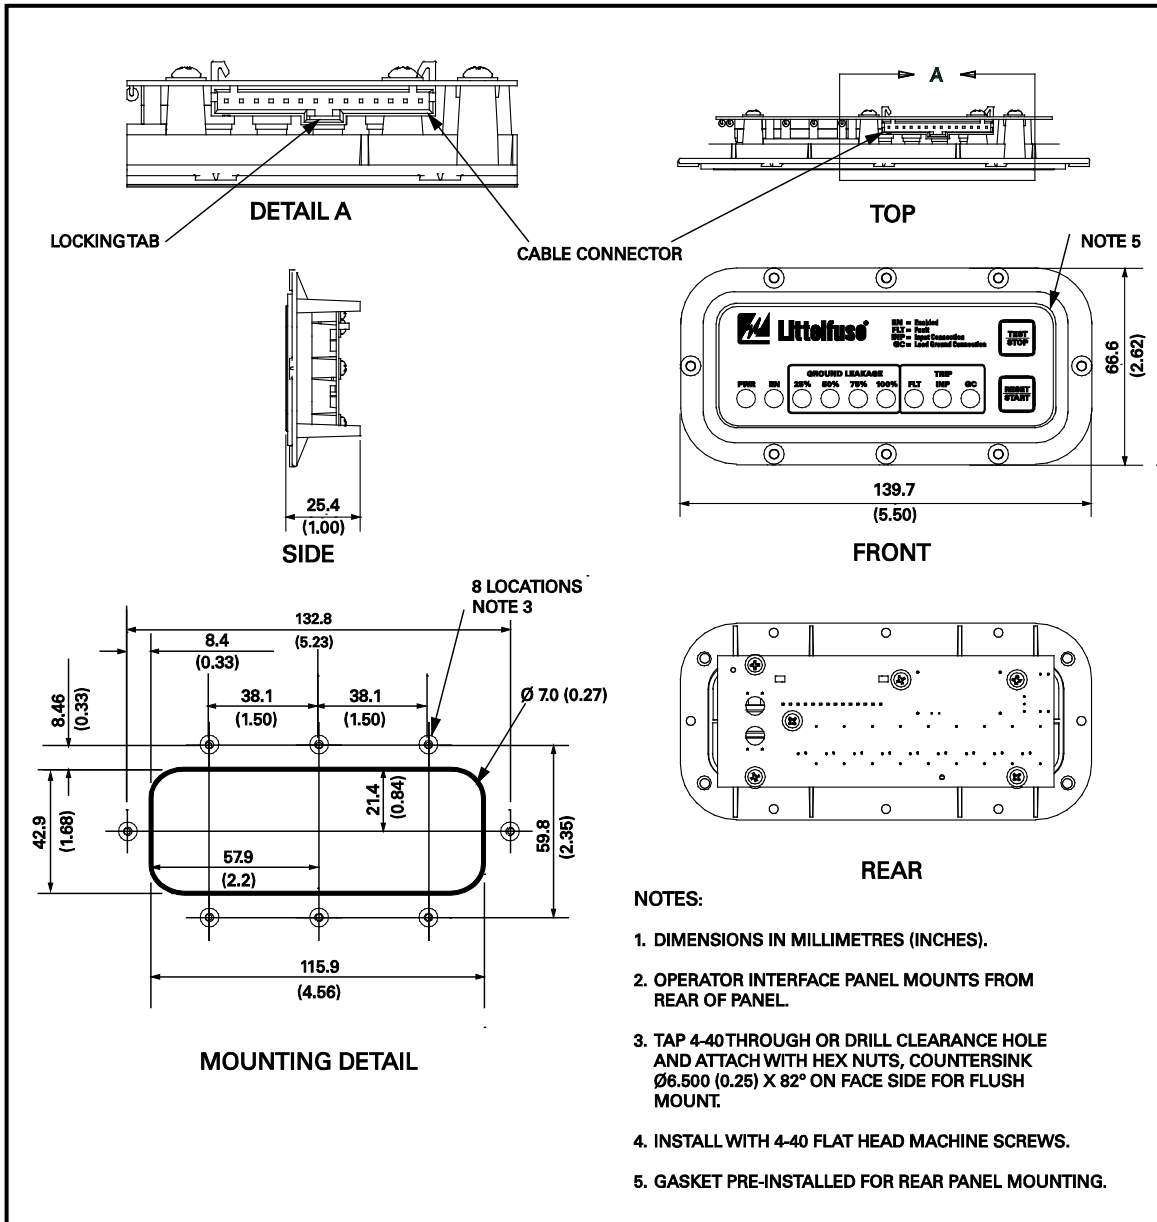

FIGURE 6. SB6100 Operator Interface (AC6000-OPI-00) Outline and Mounting Details.
The AC6000-OPI-00 should be mounted from the back side of a panel. Prepare a mounting cut-out as shown in Fig. 6. For a water-resistant installation, ensure that the supplied gasket makes suitable contact with the panel. Secure with eight 4-40 machine screws and hex nuts. If it is desired to have a flush install, use flat-head machine screws and countersink the holes as shown in Fig. 6. Attach the supplied cable to the SB6100 15-pin connector labeled OPI, securing with the supplied screws, and to the AC6000-OPI-00, ensuring that the connector locks into place. Secure the cable with cable ties.
The operator interface (AC6000-OPI-00) provides indication and control for the SB6100. The AC6000-OPI-00 has nine LEDs and two buttons (TEST/STOP and RESET/START). The LEDs indicate power (PWR), output state (EN), ground leakage (25%, 50%, 75%, and 100%), and trip status (FLT, INP, and GC). See Figs. 6 and 7.